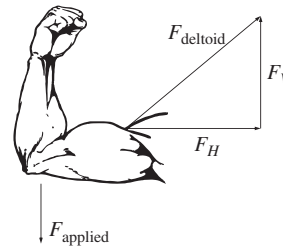

Figure P7.13 Forces exerted by the deltoid muscle.
- 7-13.** A free-body diagram of the arm showing the vertical and horizontal components of the force exerted by the deltoid muscle is shown in Fig. P7.13. The horizontal F_H and vertical F_V components of the deltoid muscle force for the
configuration shown in Fig. P7.13 satisfy the system of equations